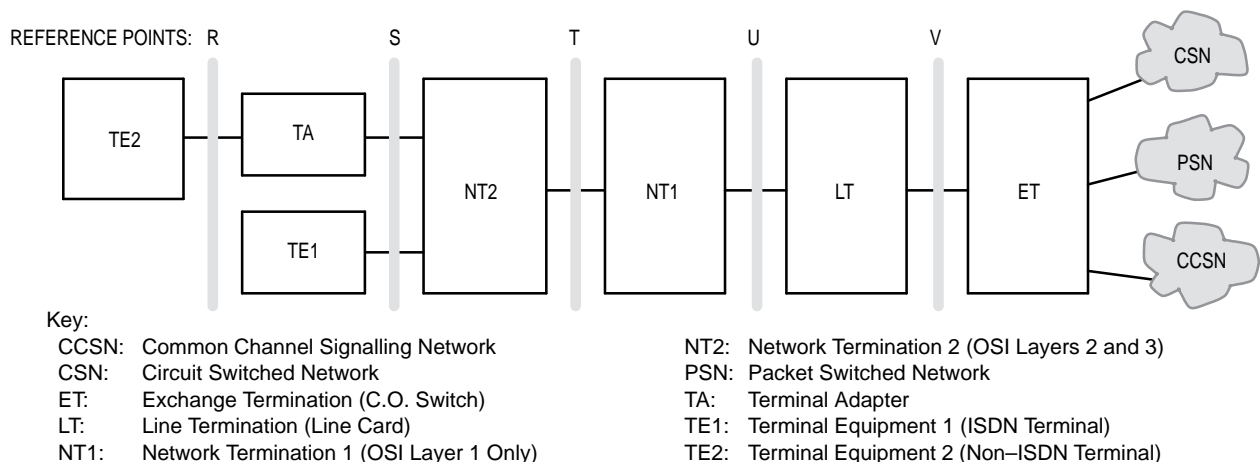

Figure 1. ISDN Reference Model
The ISDN Reference Model is shown in Figure 1. This is a general model which can be adapted to many different implementations of the ISDN. The diagram indicates the position of the U Reference Point between the Line Termination (LT) and the Network Termination 1 (NT1) blocks in the model.